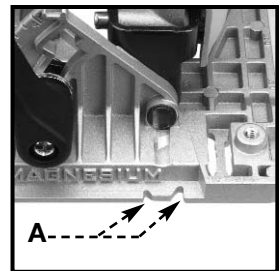

Fig. 11
Line-of-cut indicator slots (A) Fig. 11 are provided at the front of the saw base. The right slot is used to follow a line when making a 0° cut. The left slot is used to follow a line when making a 45° cut. The straight side of the notch indicates the cut line.